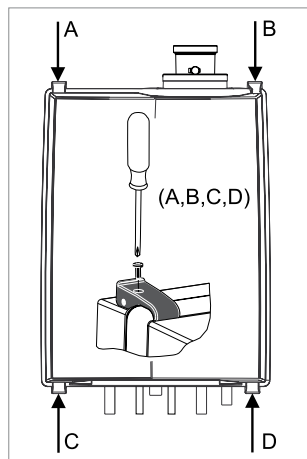

Figure 13.2.a
- Remove the screws from the 4 quick fasteners A, B, C and D (see fig. 13.2.a);